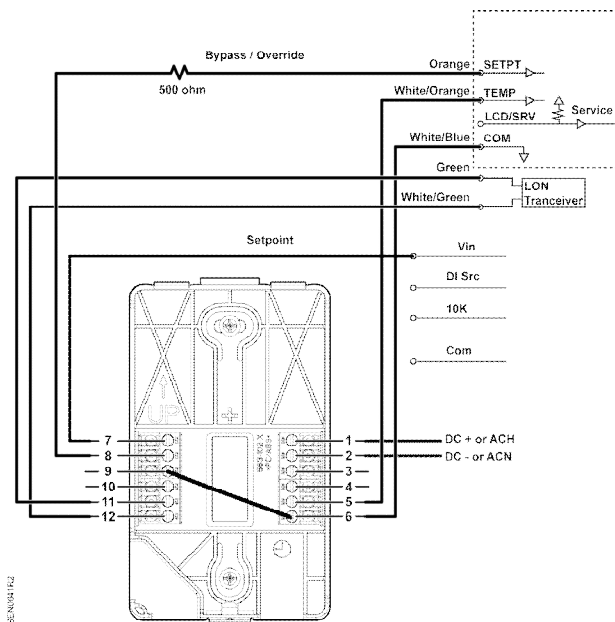
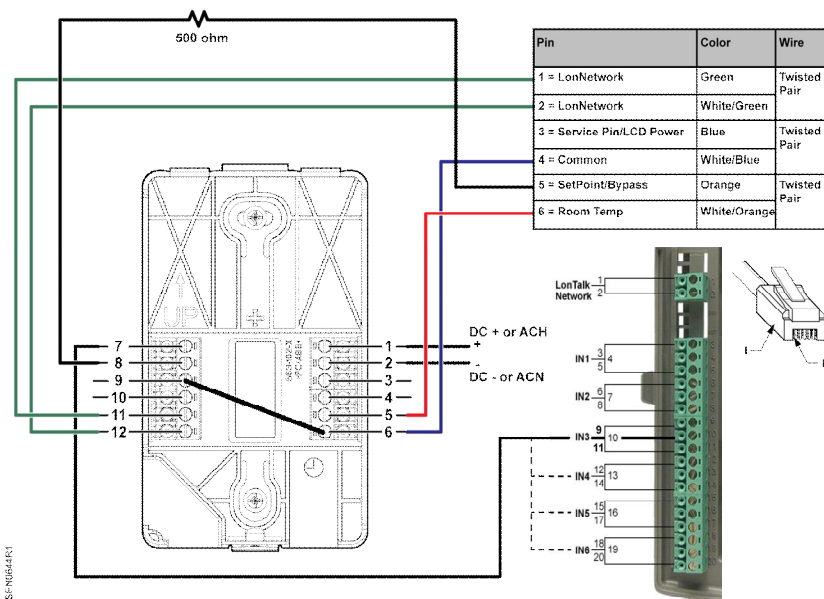

Figure 6. Predator Actuator (587-104) Wiring.
Figure 7.
2. To use the override function with a Predator Controller, a 500 ohm resistor must be wired in series with the setpoint termination on the Predator Controller and the Override termination 8 on the Room Sensor. See Figure 6 and Figure 7 for the complete wiring diagrams for the two different style controllers.